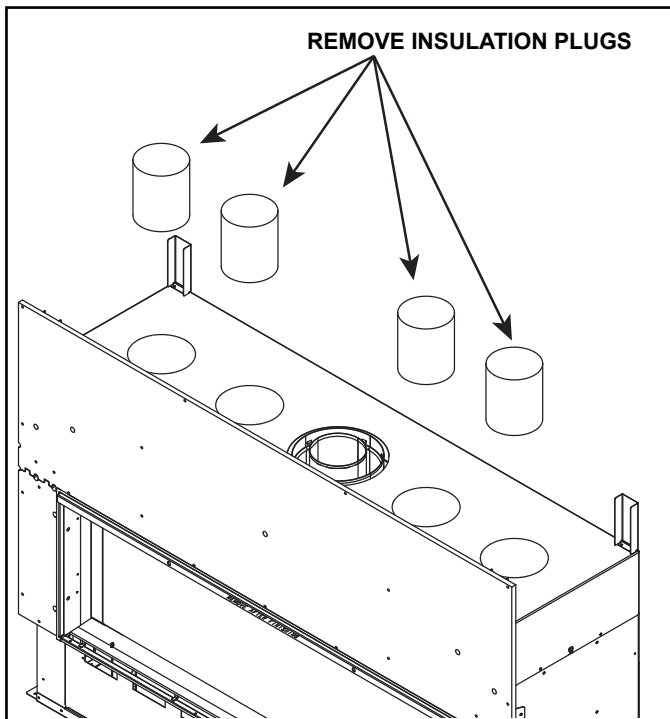

Figure 10 Remove Insulation Plugs
3. Set a collar in each of the holes where the knockouts were removed. See Figure 10.